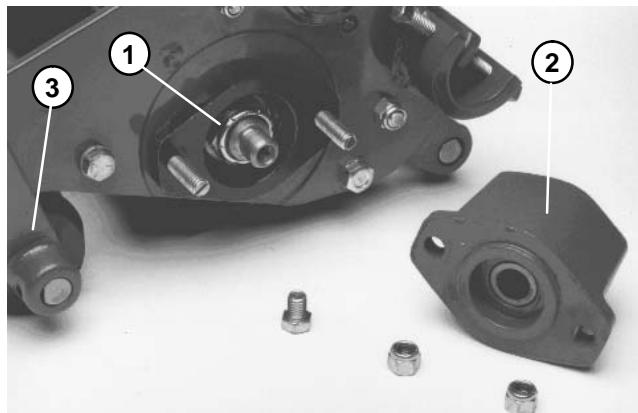

Figure 30
1. Remove the front roller assembly by removing lock nuts and cap screws securing the brackets to each side plate. Remove counterbalance end cap (Fig. 30).
2. Remove large bearing adjustment nut from the counterbalance end of the reel shaft and the special spline nut at the opposite end of the reel shaft (Fig. 30).
4. Install large bearing adjustment nut to the counterbalance end of the reel shaft and the special spline nut at the opposite end of the reel shaft (Fig. 30).
5. Install counterbalance end cap. Install front roller assembly by securing the brackets to each side plate with lock nuts and cap screws (Fig. 30).